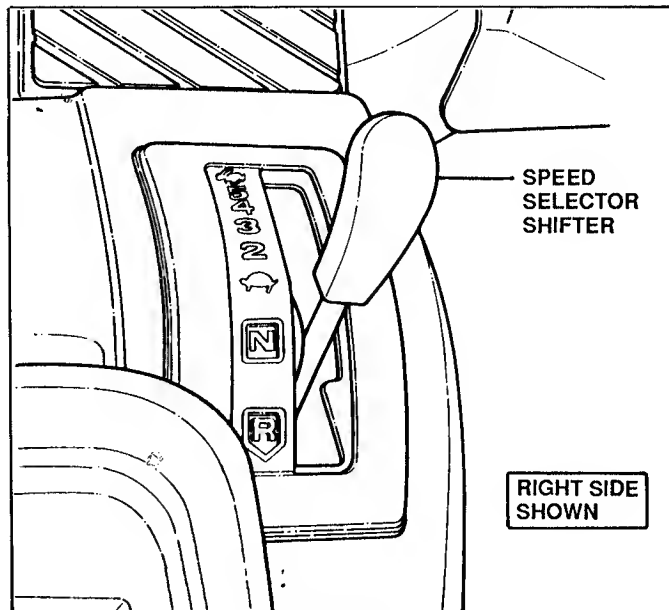

FIGURE 6
1. With **CLUTCH/BRAKE** pedal depressed, shift **SPEED SELECTOR** to **1** for forward or **R** for reverse and release pedal. (For comfort and safety, always shift back to **1** before starting forward). See Figure 6.